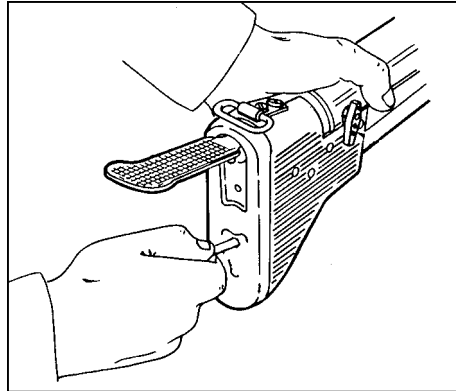

Figure 2-9. Removal of the stock.
a. **Removing the Stock Assembly.** First, the gunner makes sure the bolt is in the forward position. To remove the stock, he raises the shoulder rest, inserts a cleaning rod into the hole to release the latch. He pulls the shoulder stock from the receiver, turns the latch lever, and opens the cover (Figure 2-9).